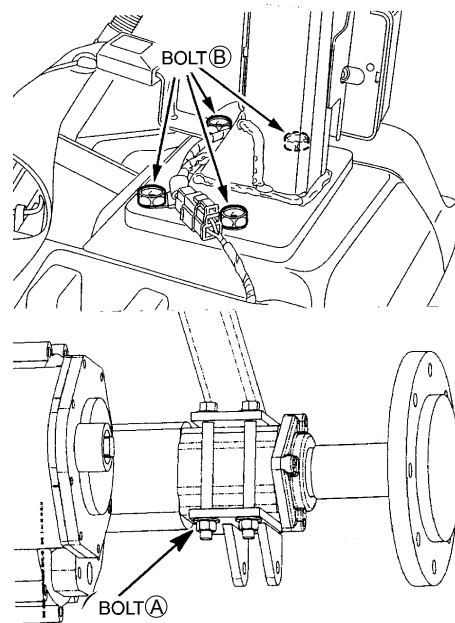

Figure 66 - ROPS Mounting Bolts/ Nuts
1. Check the torque of the ROPS mounting bolt 佳, Figure 66. Tighten both nut and bolt (M12) to the correct torque of 74.5 Nm if necessary.
2. Also check the torque of the ROPS to fender mounting bolt 加, Figure 66. Tighten the bolts (M12) to the correct torque of 74.5 Nm, if necessary.